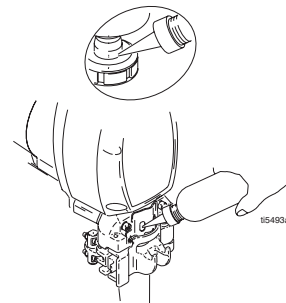

FIG. 29
8. FIG. 29. Fill pump with Graco TSL until fluid flows onto top of seal.